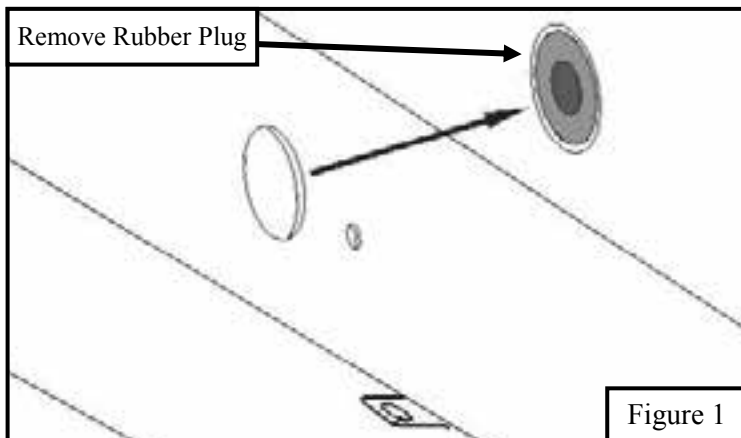

Figure 1
2. Starting on the driver side, remove the rubber plugs located on the rocker panel at each mounting location. See **Figure 1**.